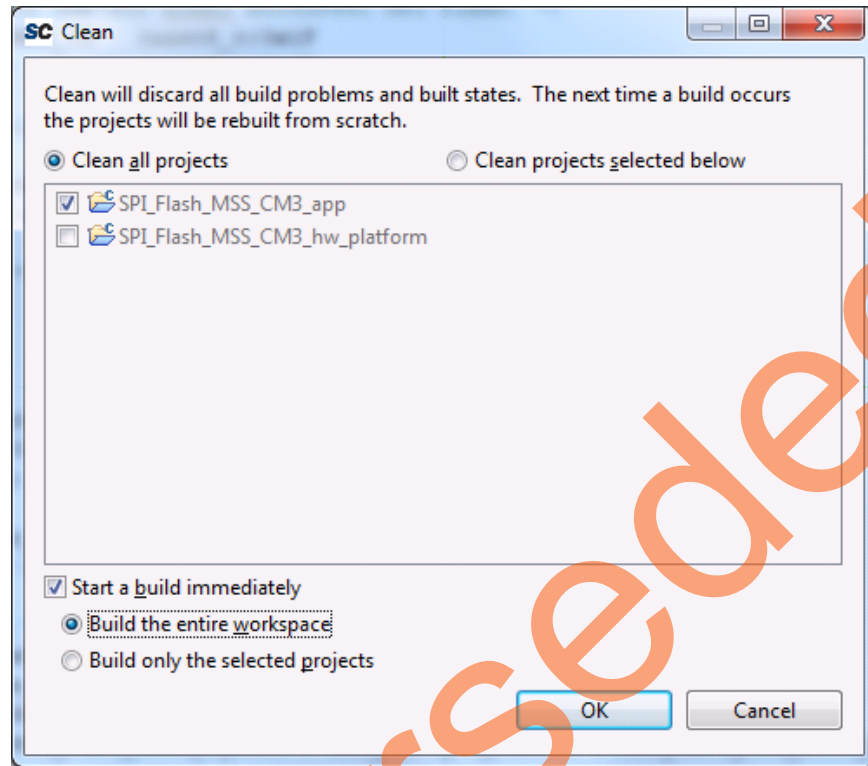

Figure 31 • Settings for a clean build
15. Perform a build by selecting **Project > Clean**. Leave the default settings in the **Clean** dialog box and click **OK**, as shown in Figure 31.